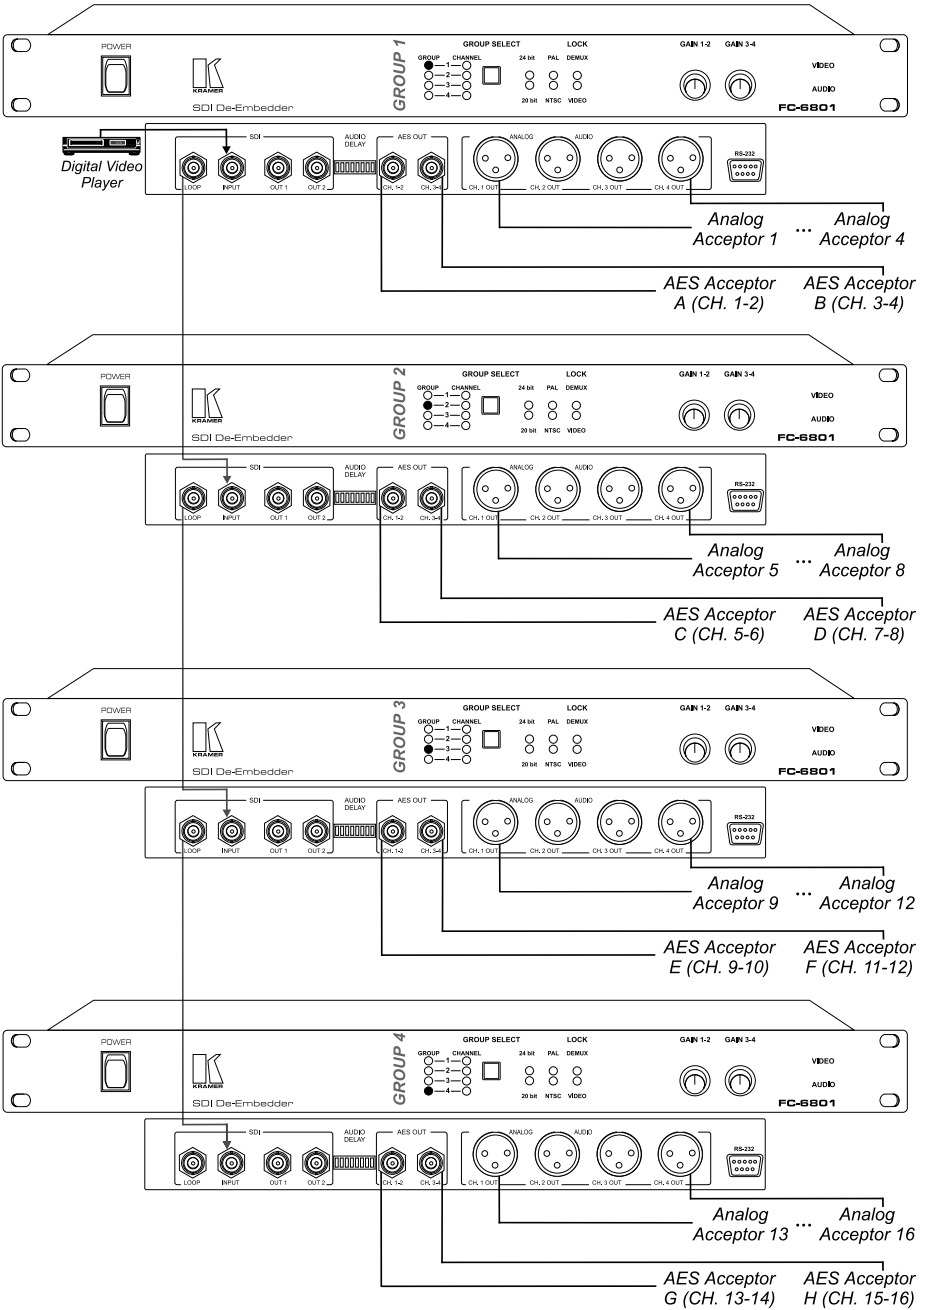

Figure 4: Cascading FC-6801 SDI De-Embedder Units
- 3 See the example in Figure 4
2. Connect the SDI LOOP BNC connector (OPTIONAL) to the SDI INPUT BNC connector on an additional unit to increase outputs (see the illustration in Figure 4 which shows how to cascade four **FC-6801** units).
To cascade up to four **FC-6801 SDI De-Embedder** units, as the example in Figure 4 illustrates, do the following¹:
² Not illustrated in Figure 4